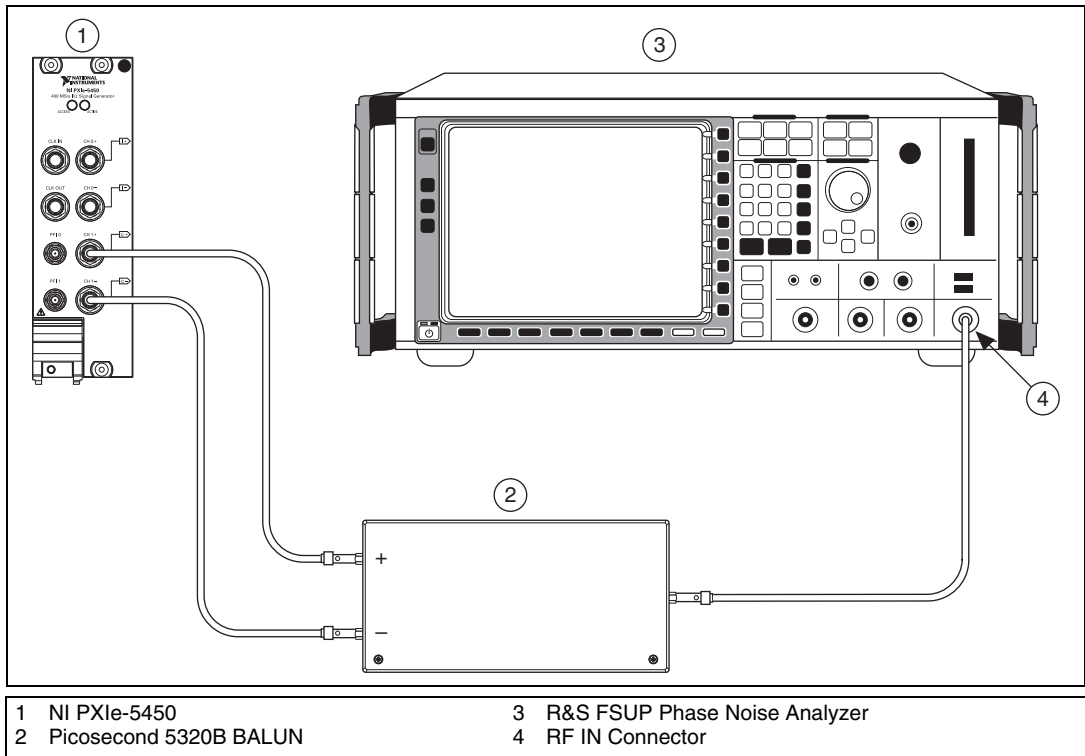

Figure 14. NI 5450 Connection to a Phase Noise Analyzer Using a BALUN (CH 1)
1. Connect the devices as shown in Figure 14.